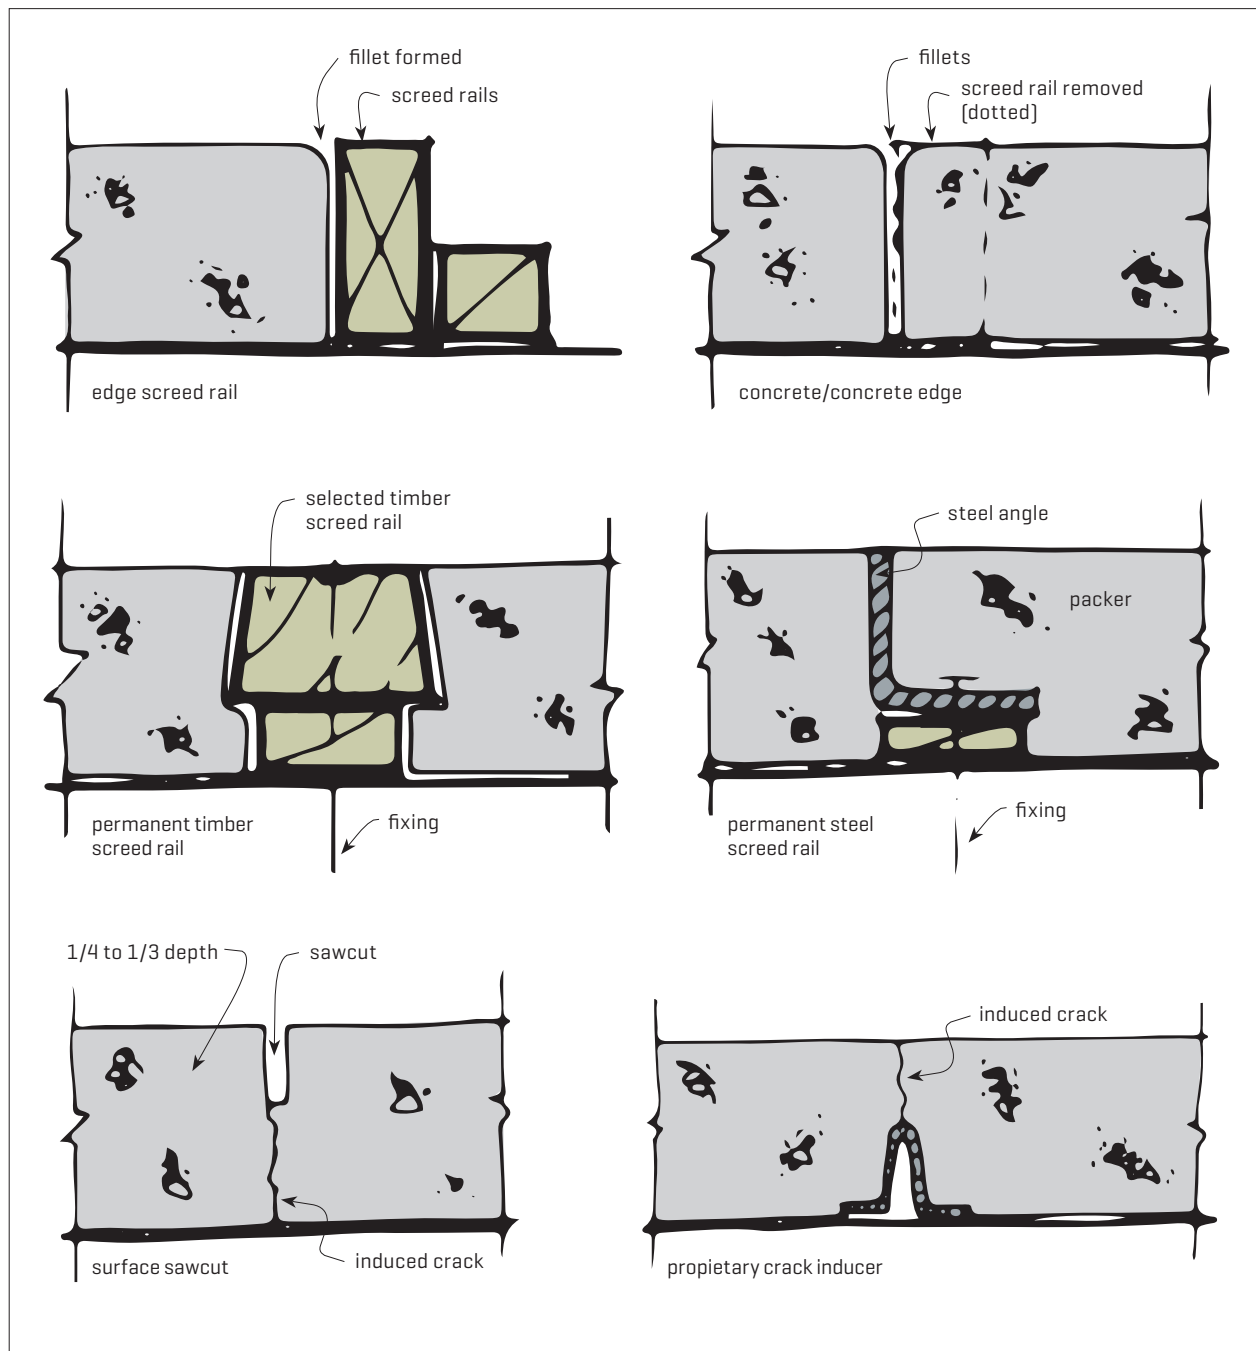

Figure 3. Construction joint types.
4.1.1 Construction joints in toppings can be made [Figure 3]: